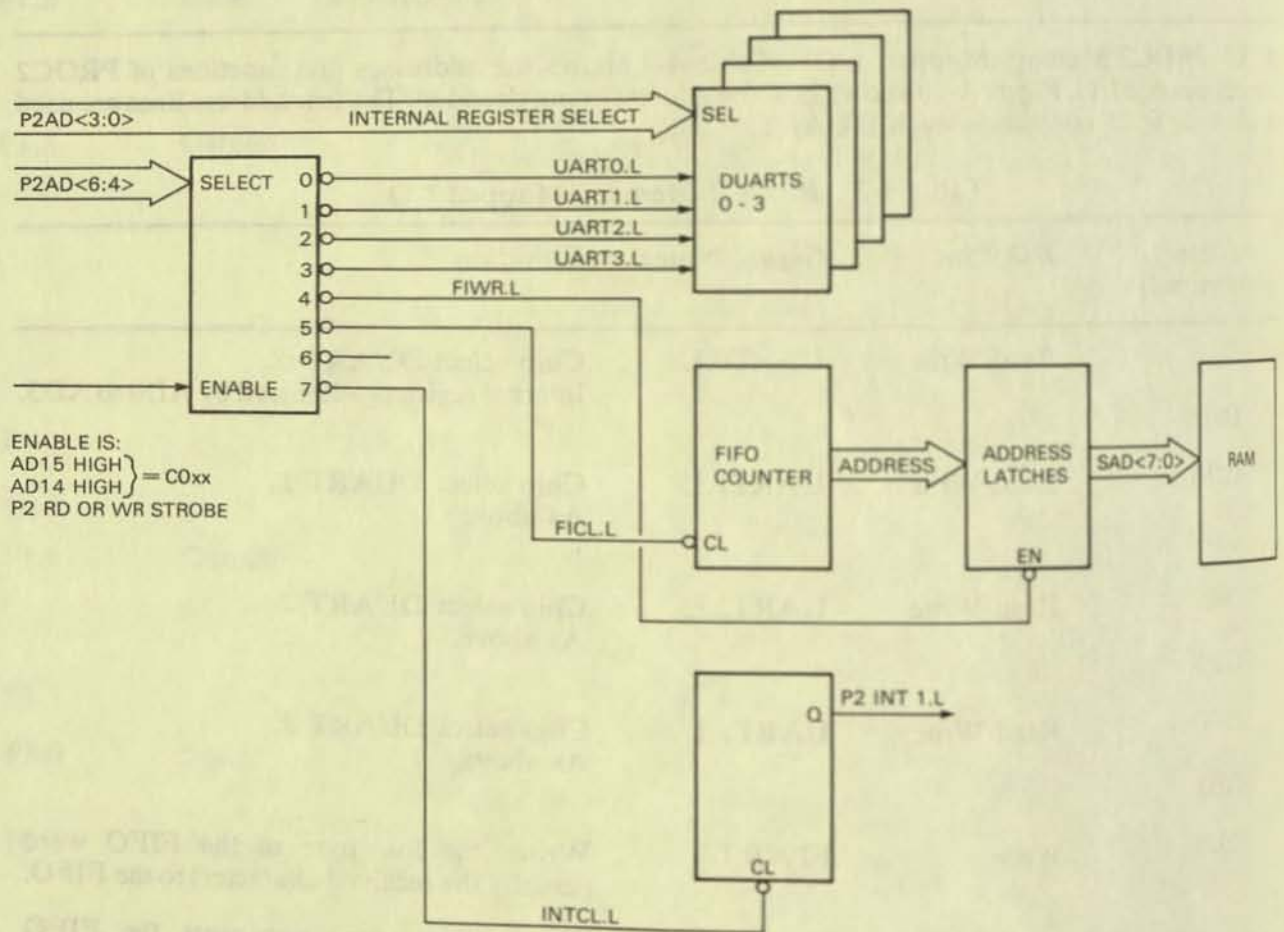

Figure 4-16 PROC2 I/O Decoding
4.7.1.3 PROC2 Memory-Mapped I/O – Table 4-3 shows the addresses and functions of PROC2 memory-mapped I/O. Figure 4-16 shows how the addresses are decoded. The low address lines are used to select one of 16 registers in each DUART.